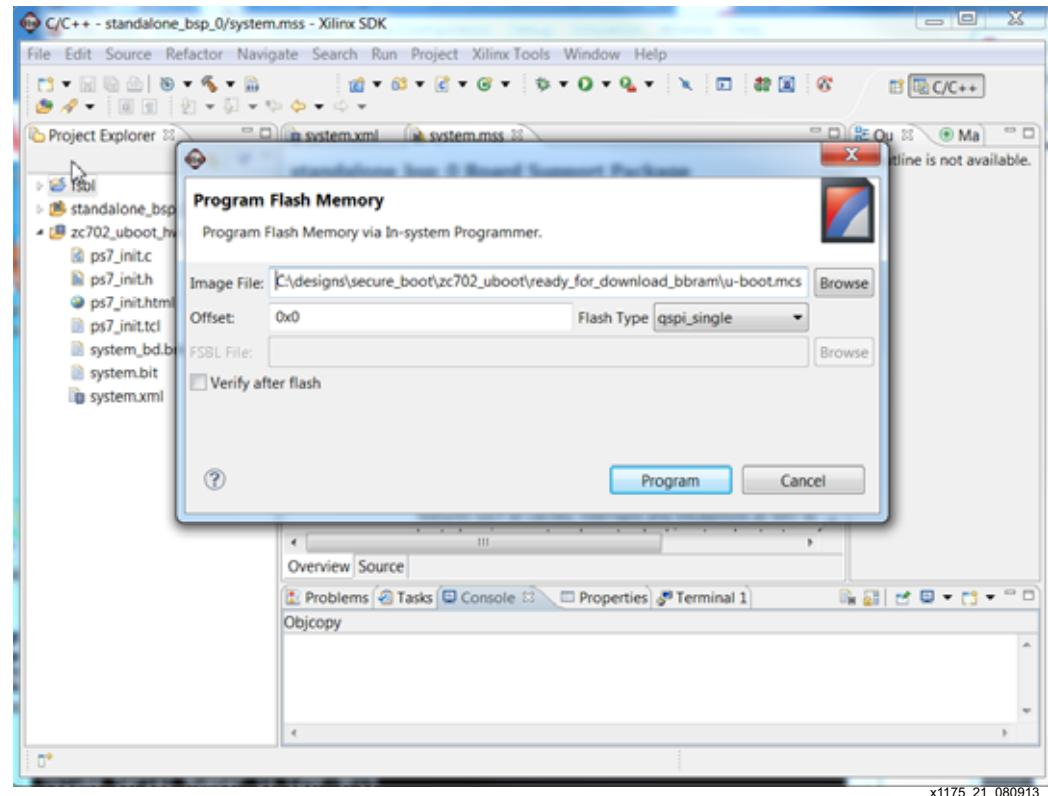

Figure 22: Programming QSPI NVM
4. From SDK, click **Xilinx Tools** > **Program Flash**. Optionally, click **Verify after Flash**, and Click **Program**. Figure 22 shows programming the NVM QSPI flash memory.